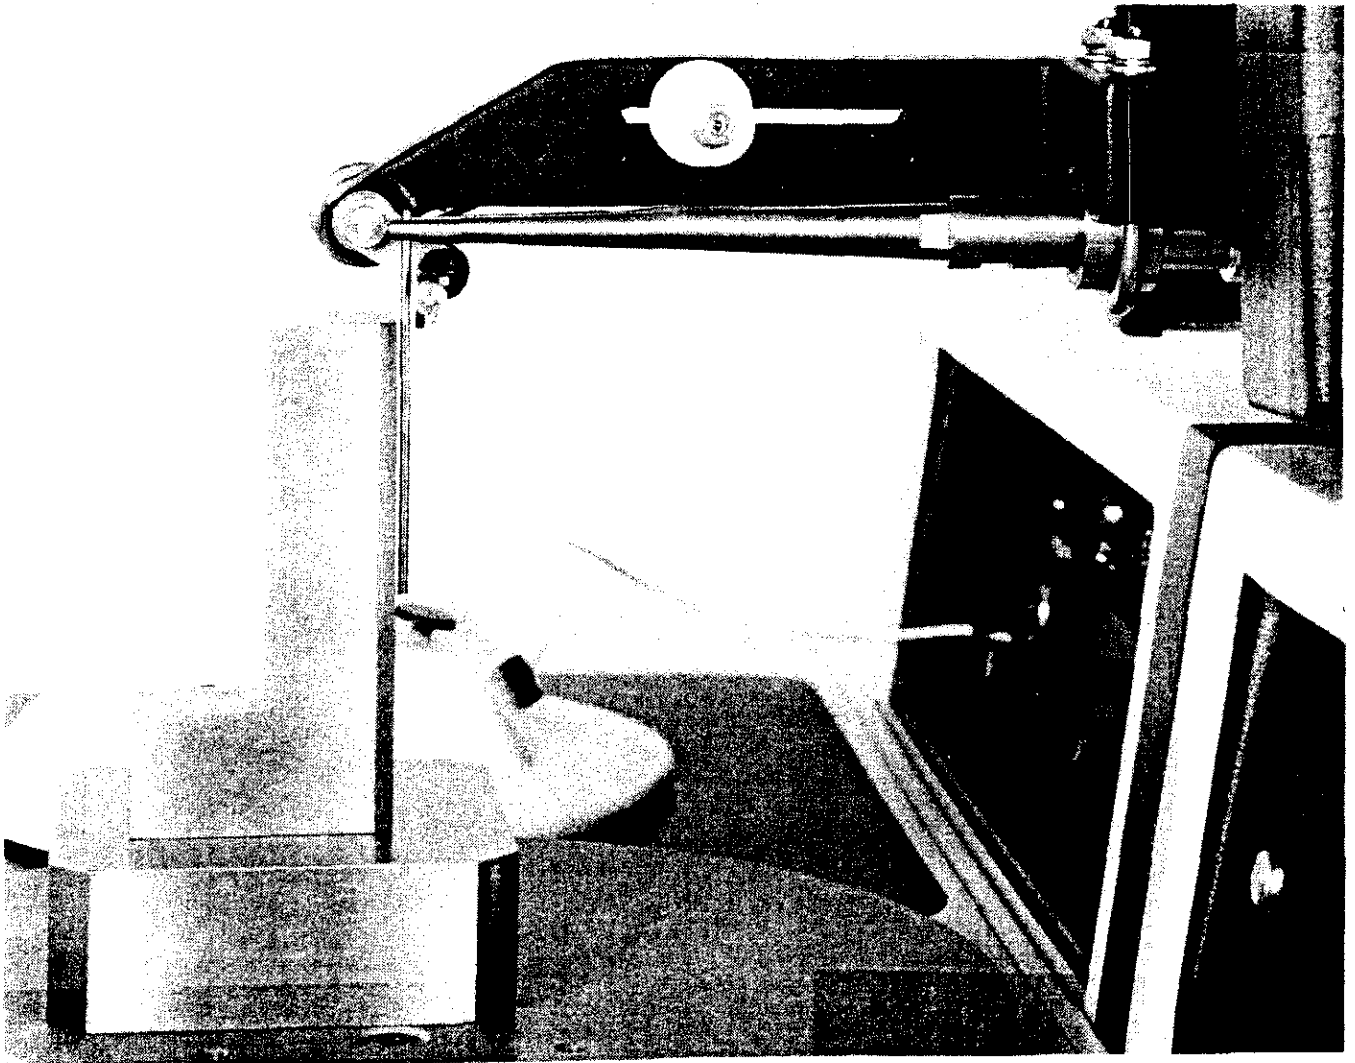

Figure 9-5 Verticality Adjustment - Side View
- Step 5 Insert the Verticality Pin into the Transducer and clamp it in place with the set screw at the tip of the Transducer (see Figure 9-5).
- Step 9 To level the Transducer, view it from the side against an angle bar on square block (Figure 9-5). Loosen the lock nut on the levelling screw of the Height Control Link. Adjust the levelling screw so that when it touches the Contact Pin of the Bonding Head, the verticality pin lines up with the angle bar. Loosen the Wedge set screw and remove the verticality pin from the Transducer. Make sure that the ground connection is kept tight under the nut on the levelling screw.